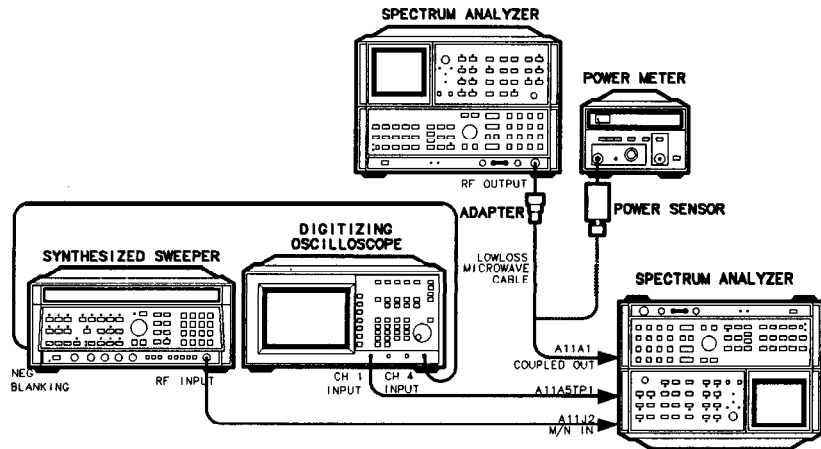

Figure 3-69. YTO Loop Adjustment Setup
1. Set the spectrum analyzer (DUT) LINE switch to STANDBY. Turn the spectrum analyzer over to position the RF Section on top, as shown in Figure 3-69. Remove the RF Section's bottom cover.